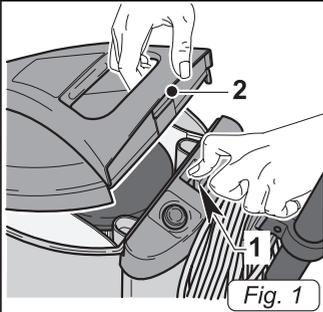

Fig. 1
- Move the lever (1 Fig. 1) and remove the cover (2 Fig. 1).